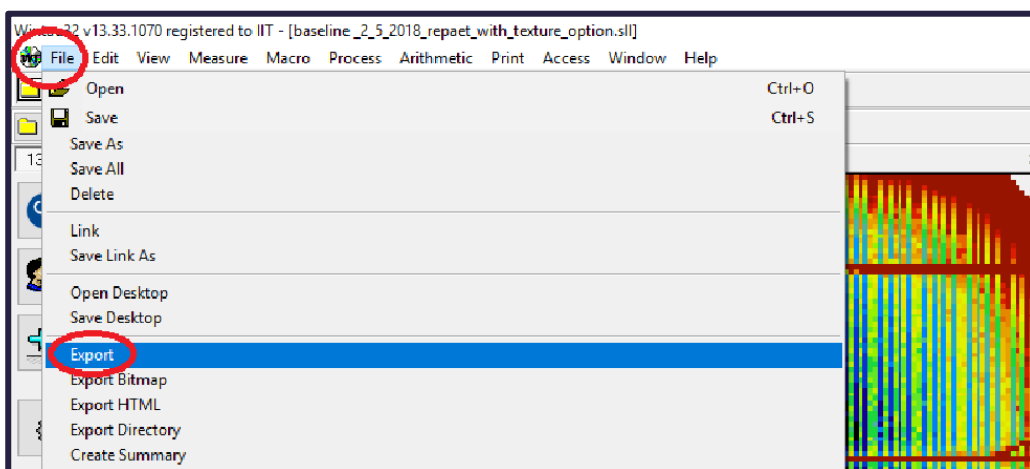

Figure. 23
23. The data points of the map can be extracted by clicking “File/Export”. (Figure. 23)